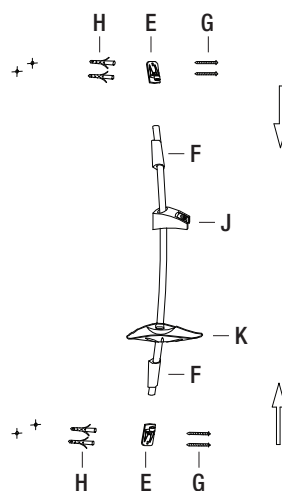

Fig. 11
- Insert the wall anchors (H) into the pre-drilled holes. Secure the mounting brackets (E) to the wall with the screws (G), see Fig. 11.